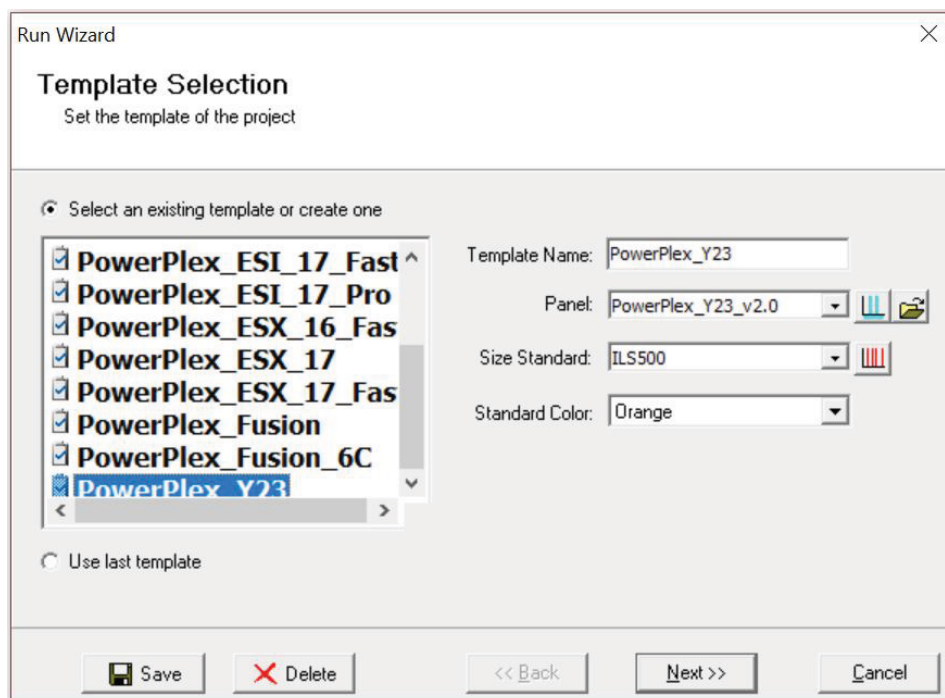

Figure 28. The 'Template Selection' window.
- Click on **Run** in the Magic Wizard or click the **Run Project** icon (green arrow) in the toolbar. The 'Template Selection' screen will appear (Figure 28). Select the PowerPlex_Y23 template and the settings shown in Figure 28. Verify the panel that you created in Step 6 is selected in the Panel drop-down field. The Size Standard must be ILS500 and the Standard Color must be Orange. Select **Next**.